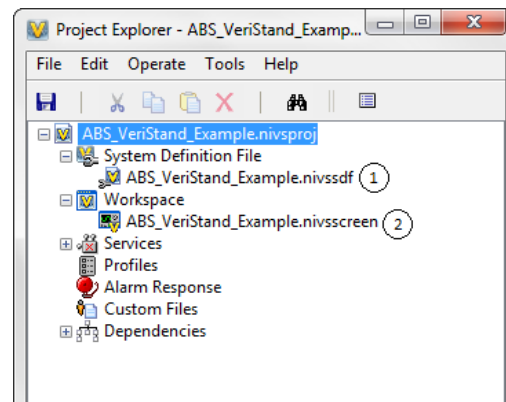
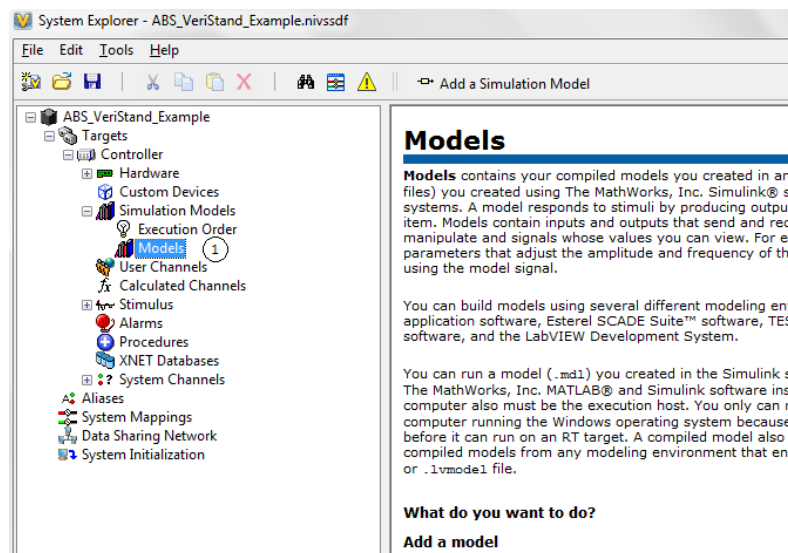
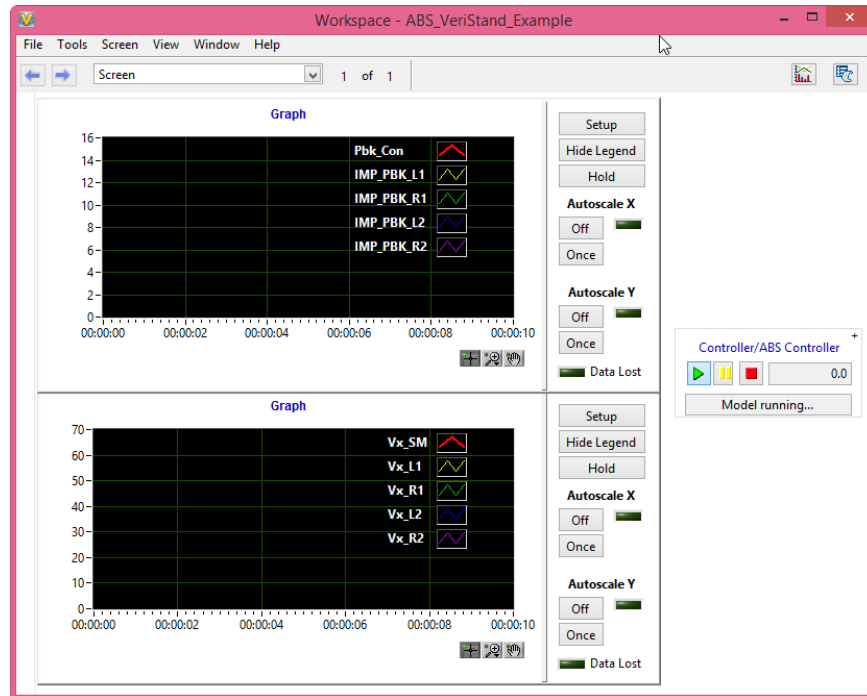

Figure 35. VeriStand project with ABS example.
Figure 36. VeriStand System Explorer.
Figure 39. ABS\_VeriStand\_Example Running.
1. Clicking the **Open** button in the previous step should open the VeriStand Project Explorer window (Figure 35).
2. Expand **ABS\_VeriStand.nivssdf**→**System Definition File**. Double click the system definition file **ABS\_VeriStand\_Example.nivssdf** (1) (Figure 35) to open the System Explorer (Figure 36).
- On the left side of the System Explorer window, expand **Controller**→**Simulation Models**. Right click **Models** ① (Figure 36) and select **Add Simulation Model**.
7. Open the workspace window by double-clicking on the workspace file in the Project Explorer2 (Figure 35). In the workspace window, you can add objects such as a speed meter, etc. and keep track of some variables while running (Figure 39).
8. To run in NI VeriStand, click **Operate→Run** in the Project Explorer (Figure 35). This will automatically open the workspace again and allow you to monitor the objects you added to the workspace as it runs. The workspace setup and run for this example are shown in Figure 39. Use the **Controller/ABS Controller** playback controls to start, pause, and stop the run.